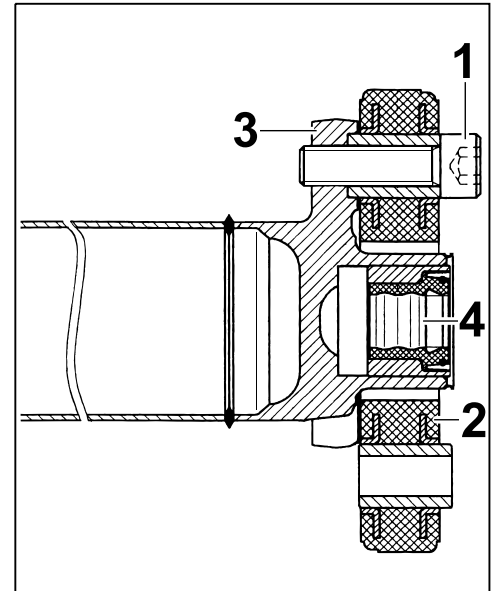

Figure 5
- 2.1 Remove cheese head bolt, M10 x 35 (3 x) (⇒ *Figure 5*).
- 3.1.3 Grease bush on cardan shaft flange (⇒ *Figure 5 -4-*) with approx. 3g of Olysta Longtime 3 EP.